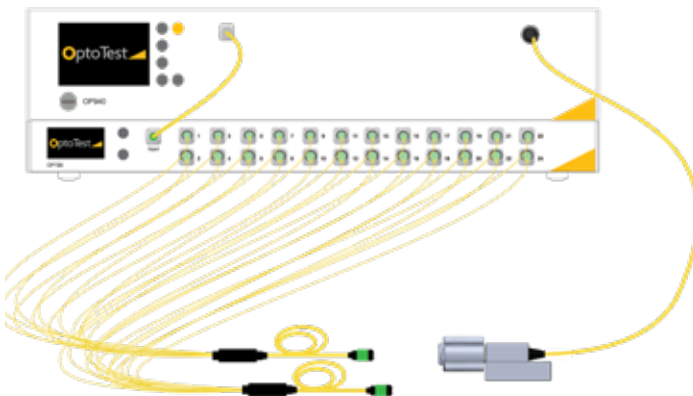

Figure 10 - 24 Channel ILRL System with a Simplex OP940 cascaded through a 24Ch switch.
The first option for a multichannel IL and RL test setup is pairing a single channel ILRL meter with an external switch to increase the channel count (Figure 9). Multiple switches can increase channel counts further by cascading (Figure 10). It is important to note that these setups can lead to a crowded work space due to the volume of equipment and cables required. Optical switches are also not accounted for during the standard calibration of the ILRL meter which can impact the test accuracy.
- Expandable by adding more switches (figure 10)